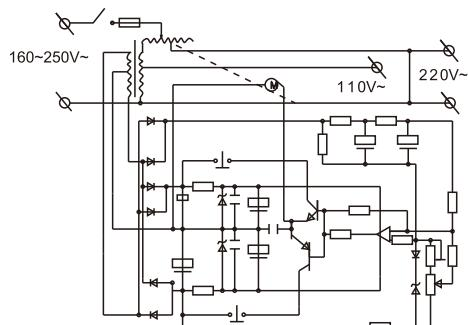

Figure 2
- The electrical schematic diagram of 0.5kVA~1.5kVA high-precision full-automatic AC voltage stabilizer is shown in Figure 2;